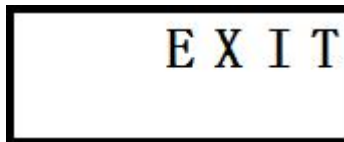

Figure9
2.1 In the state when the menu is not started, enter "Confirm" , the menu will be started, as shown in Figure 9:
2.2 In the state shown in Figure 9, enter "Confirm" key to exit the menu, menu state return to initial state.
3.1 Enter "Left" display the menu items from lower to upper circular when the screen displays as shown in Figure 9,enter "Left" once, as shown in Figure 10.Enter "Left" once again, as shown in Figure 11.
3.2 Enter "Right" display the menu items from lower to upper circular when the screen displays as shown in Figure 9, enter "Right" once, as shown in Figure 12. Enter "Right" once again, as shown in Figure 13.
5.1.1 Enter "Confirm" once to start menu, as shown in Figure 9;
5.1.7 Enter "Left" ten times or "Right" twice, as shown in Figure9;
5.2.1 Enter "Confirm" once to start menu, as shown in Figure 9;
5.2.11 Enter "Left" eight times or "Right" four times (menu browse), as shown in Figure 9;
1.1 Enter "Confirm" once to start menu when menu doesn't start, then the screen displays as shown in Figure9;
1.2 In the State as shown in Figure 9, enter "Confirm" once to exit the menu.